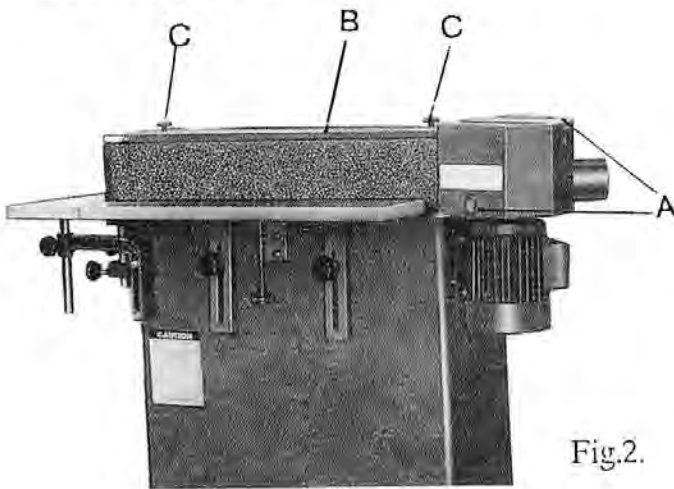

Fig.2.
2. Loosen the two push buttons (A) Fig. 2, on the dust chute, then you can open the dust-hood.
3. Take the abrasive belt safety guard (B) out by removing the two knob bolts (C), which are on the safety guard.